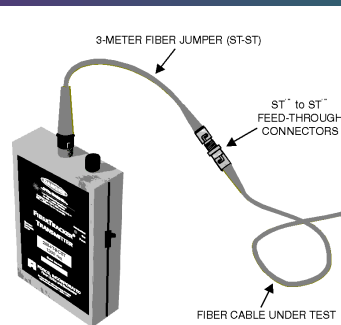

Fig. 2— Identifying fibers with the light source/transmitter & detection wand/receiver.
- 3) Optical output on the Model 60 light source/transmitter is user-adjustable over at least a 10 dB range. The light source/transmitter also offers two types of optical output. The laser may be set to send a continuous 500 Hz tone or a gated (@ 1 Hz) 500 Hz tone. This allows the user to send a unique signal that may be more easily identified. See Fig. 2 for the location of the continuous/off/pulse switch.